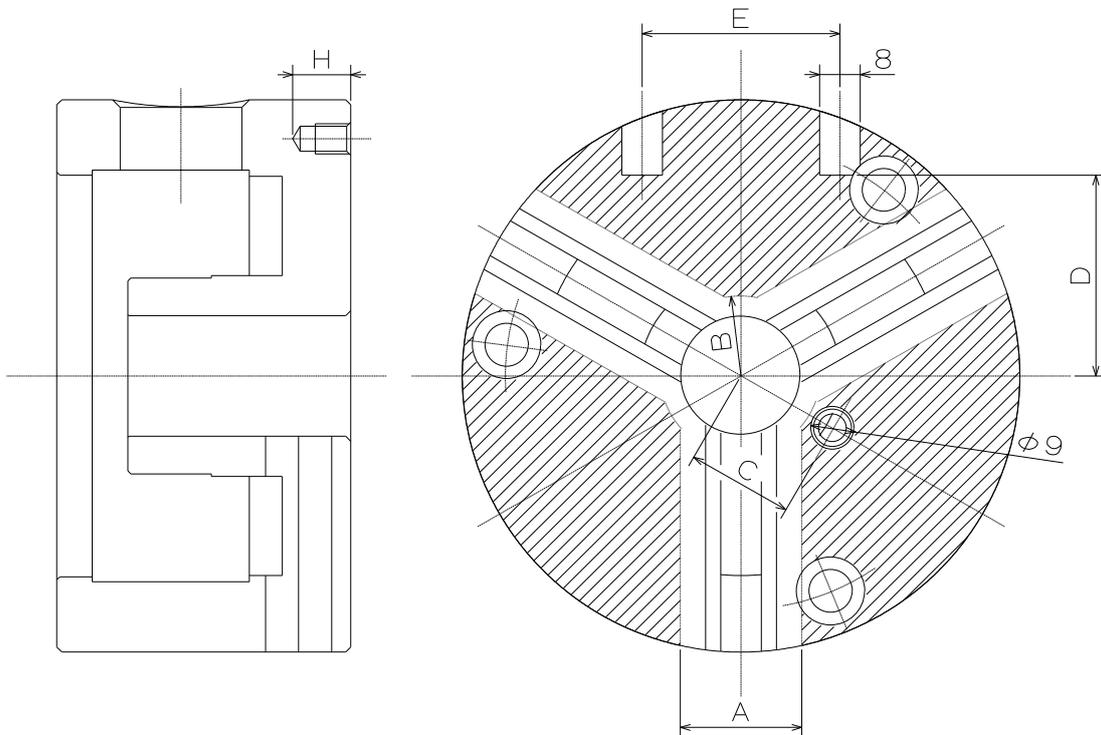

Fig.6
- In the case of attaching locator and jig on the scroll work gripper body surface, tap or drill a hole in the allowable additional process range specified in Fig. 6.